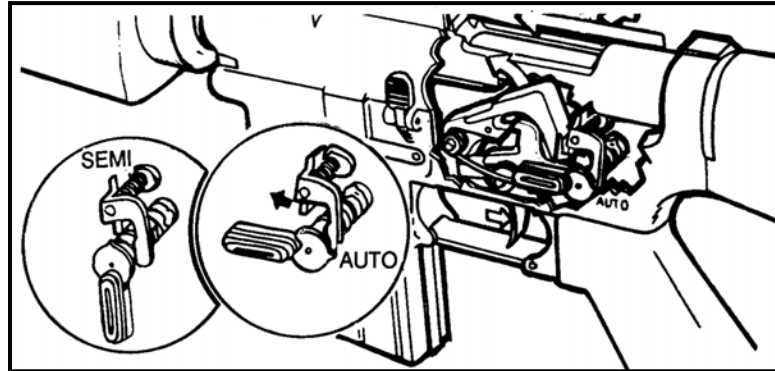

Figure 4-11. Automatic fire mode.
b. **Automatic Fire Mode (M16A3 Rifle, M4A1 Carbine Only)**. When the selector lever (Figure 4-11) is set on the AUTO position, the rifle continues to fire as long as the trigger is held back and ammunition is in the magazine. The functioning of certain parts of the rifle changes when firing automatically.
(1) Once the trigger is squeezed and the round is fired, the bolt carrier group moves to the rear and the hammer is cocked. The center cam of the selector depresses the rear of the disconnecter and prevents the nose of the disconnecter from engaging the lower hammer hook. The bottom part of the automatic sear catches the upper hammer hook and holds it